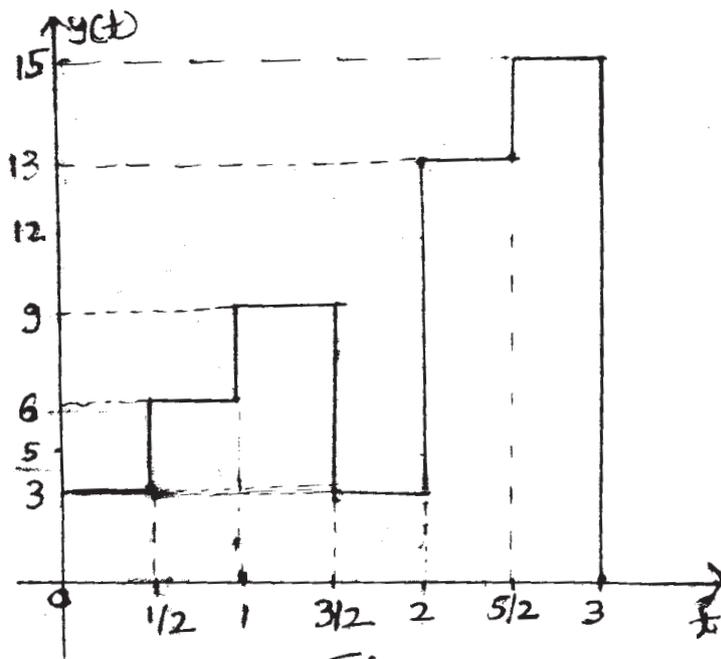

Fig 2
- Q6)** For the signal  $y(t)$  shown in Fig 2.